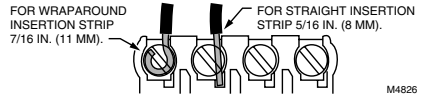

Fig. 3. Correct wiring technique.
1. Loosen the terminal screws on the W8703A and connect the system wires; see Fig. 3 and Table 2.